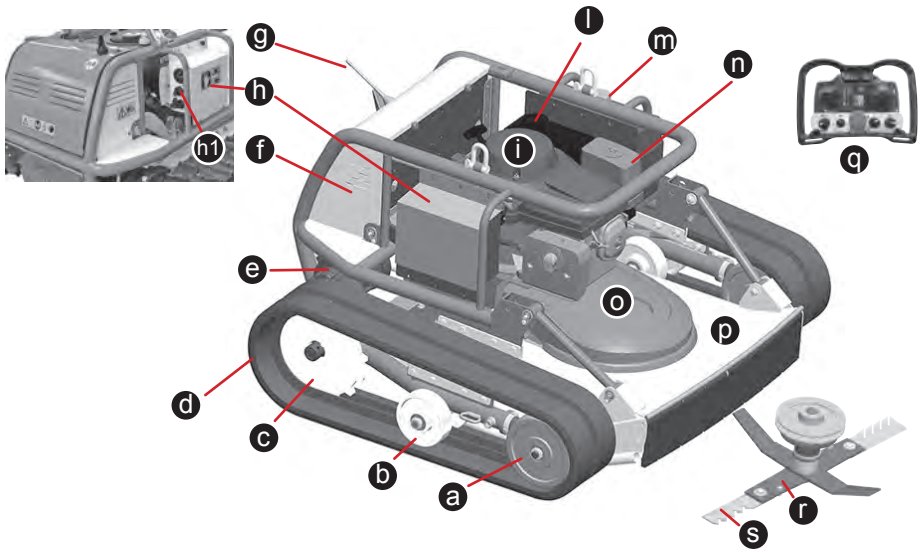
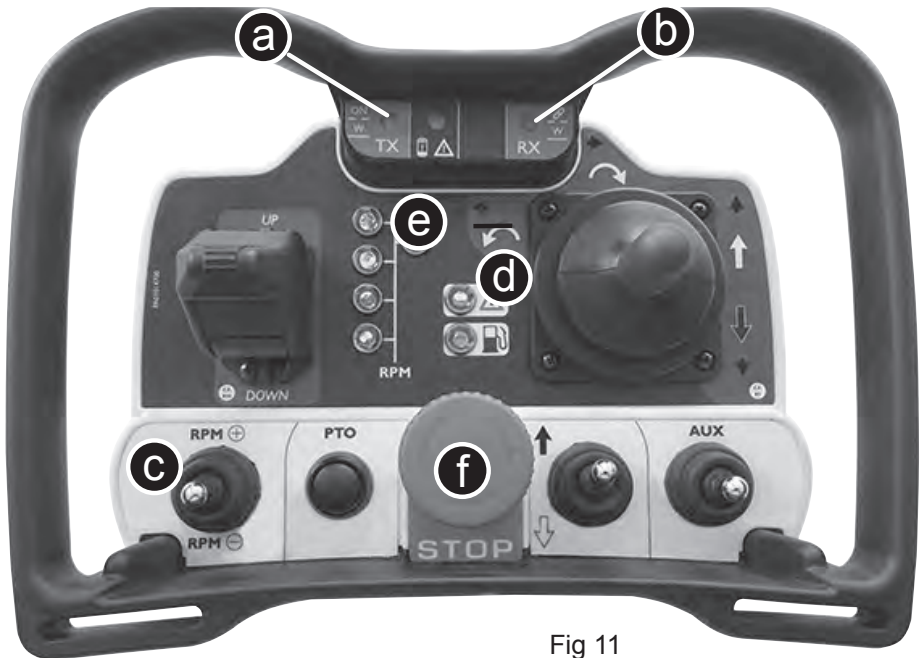

Fig 7
Fig 11
4.1 NAME OF MAJOR COMPONENTS (fig.7)
4.2 ENGINE (fig.7 - i)
4.2.1 AIR FILTER (Fig.7 - n)
The engine is equipped by an air filter. In case of dry grass and dusty environment the air filter have to be cleaned very often (every 2 hours). If some flying grass are trapped by the net of the recoil starter (Fig. 7 - i) it means that probably also the air filter need to be cleaned out. (see cap. 7.1.2). The clogging of the air filter can cause a lose of engine power. In normal condition, the air filter should be cleaned every day.
4.2.2 FUEL TANK (Fig.7 - m)
4.3 MOWER DECK (fig.7 - p)
5.2 ENGINE START (fig.11)
Move the throttle lever up (Fig 11 (c)) until the Choke Warning Light (d) light up. Push both Buttons on the left hand side (Fig.10 (1) and (2)) until the engine starts. Move the throttle lever down until the Choke Warning Light (d) turn off.
Now the engine speed can be adjusted and the value is shown from the warning light column (Fig 11 (e)).
5.3 ENGINE STOP (fig. 11)
To stop the engine push anytime the Red Alarm Button (Fig 11 (f)) and the engine will suddenly stop. After stop, remind to release the emergency Button in its normal position. The engine can be turned OFF also by Alarm Button on the top of the machine (Fig.7 (l)), turning the Star Key (Fig 7 (h1)) OFF or if the machine lose the Radio connection with the remote Control.